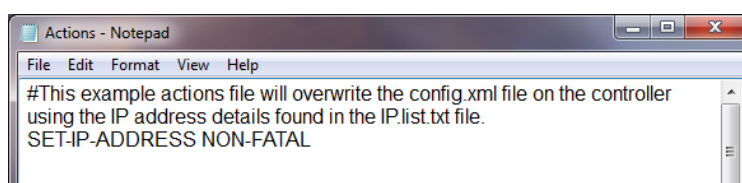

Fig 62. Example Actions.txt File to Change the Controller IP Address
- **Actions.txt** - Edit the Actions.txt file so that the only action is SET - IP - ADDRESS (see Fig 62.)